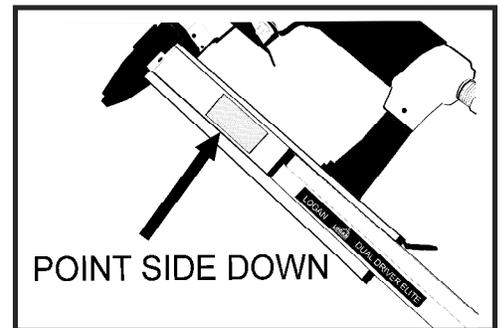

Fig 2
2. Insert full stacks of Logan points with the point side down. (Fig 2)